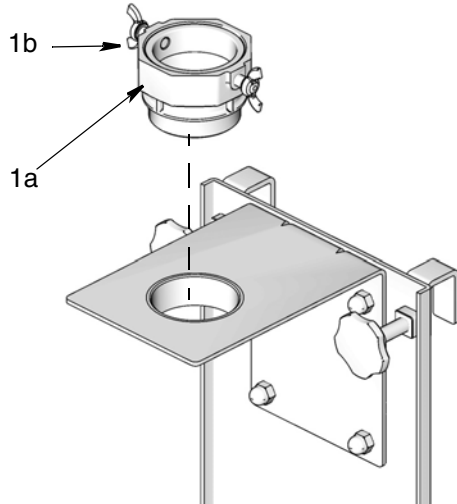
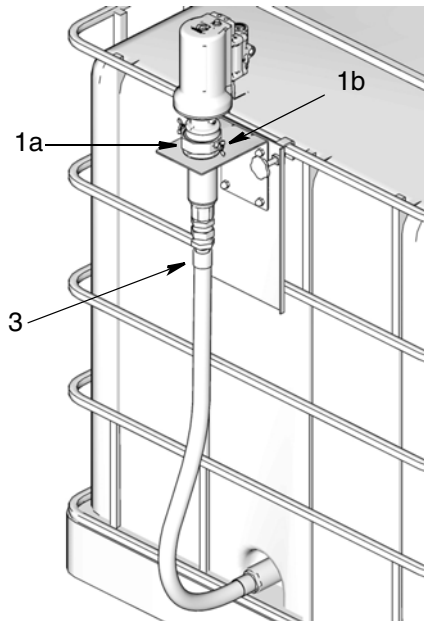

FIG. 13
FIG. 14
3. Thread the pump bung adapter (1a) into hole in the pump bracket assembly. Hand tighten securely. (FIG. 13).
4. Insert the pump (1) through bung adapter (1a) (FIG. 14). Secure the pump in place by tightening the gasket screws (1b) (FIG. 13 and FIG. 14).